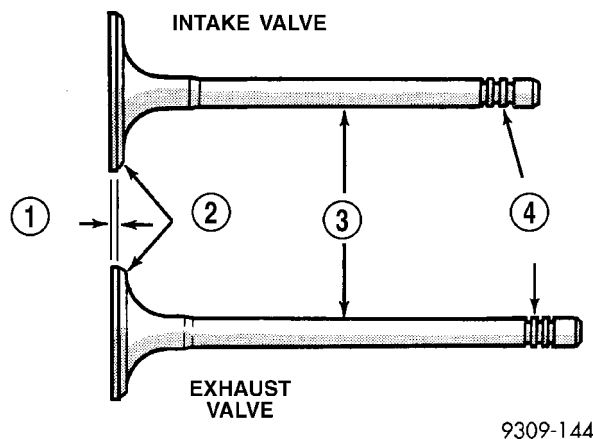

Fig. 47 Intake and Exhaust Valves
(1) Measure valve stems for wear (Fig. 47) approximately 60 mm (2.36 in.) below the valve lock grooves. For valve specifications (Refer to 9 - ENGINE - SPECIFICATIONS).
NOTE: Valve stems are chrome plated and should not be polished (Fig. 47).